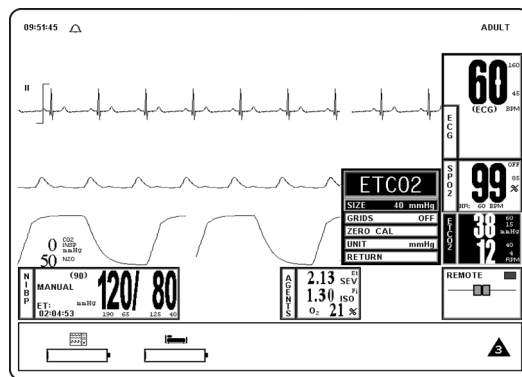

Figure 4-16. The EtCO₂ Menu
4.4.4 **EtCO₂ Menu.** (See Figure 4-16) The menu for the EtCO₂ is brought up with the selection of the EtCO₂ Menu-Select icon. *This menu has a time-out feature. If no action is taken for approximately 60 seconds, the monitor will automatically return to the Normal Screen.*